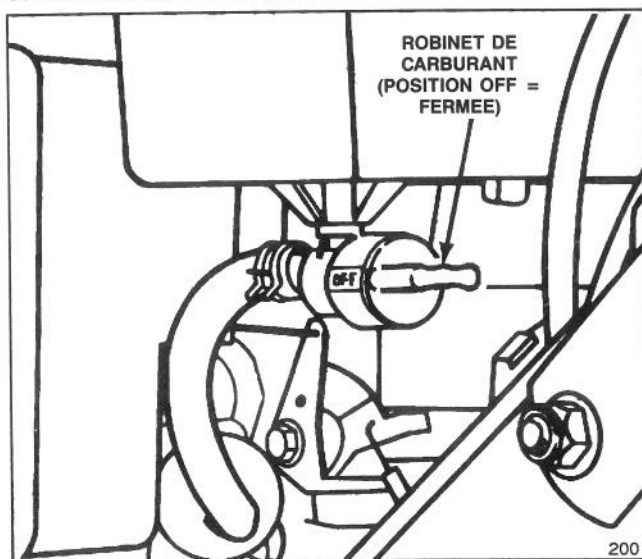

Figure 18
2. Fermez le robinet de carburant (position OFF, figure 18).